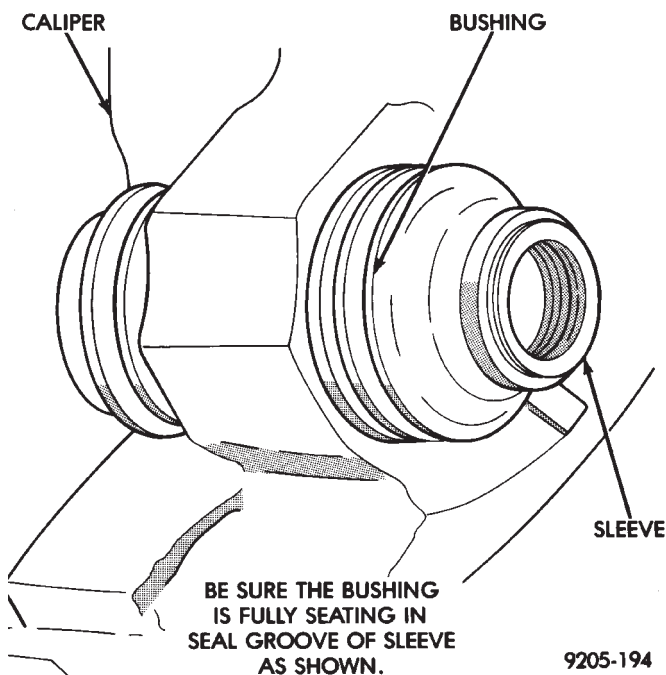

Fig. 170 Correctly Installed Caliper Sleeve And Bushing
(7) Holding sleeve in place, work other end of bushing over end of sleeve and into the seal groove on sleeve (Fig. 170). Be sure other end of bushing did not come out of seal groove in sleeve.